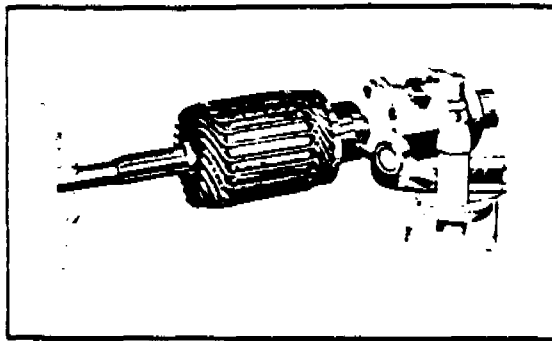

FIGURE 9-29b. TURNING STARTING MOTOR COMMUTATOR
a. Check the commutator for uneven wear, excessive glazing or evidence of excessive arcing. If only slightly dirty, glazed or discolored, the commutator can be cleaned with 00 or 000 sandpaper. If the commutator is rough or worn, it should be turned in a lathe. Refer to Figure 9-29b. The armature shaft should be inspected for rough bearing surfaces and rough or damaged splines.